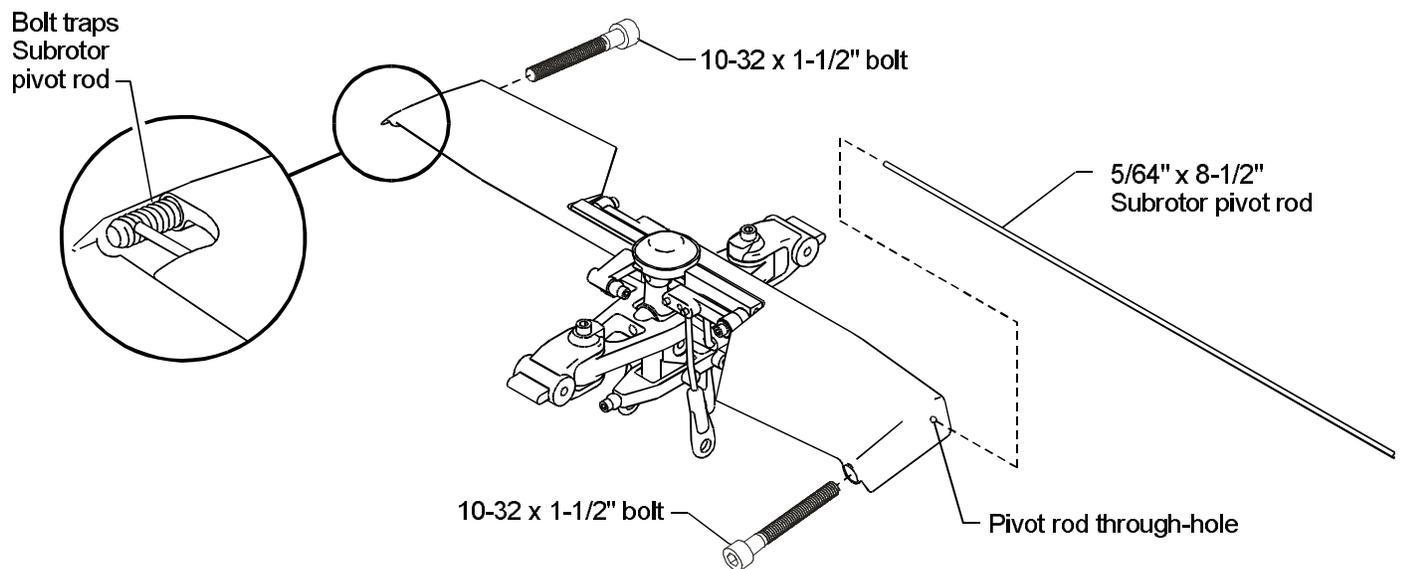

Figure 8-6.
- 12. Screw a 10-32 x 1-1/2" bolt into **ONE** *Subrotor* blade as shown in Fig. 8-6. Tighten the bolt until the pivot rod through-hole is completely blocked.